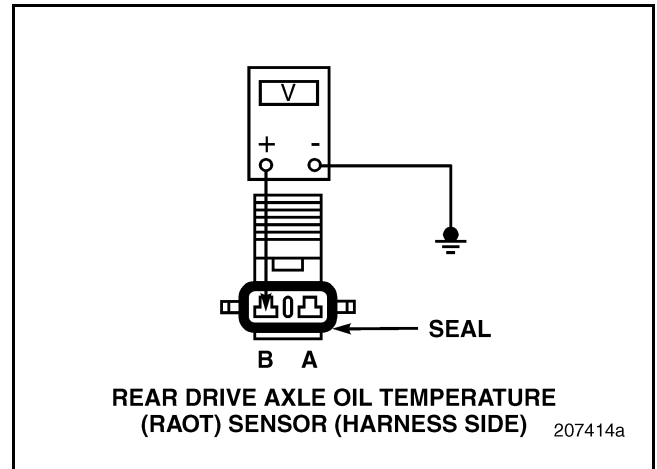

Figure 260
5. Measure the voltage between Rear Drive Axle Oil Temperature (RAOT) Sensor harness connector pin B and a good ground (see Figure 260).